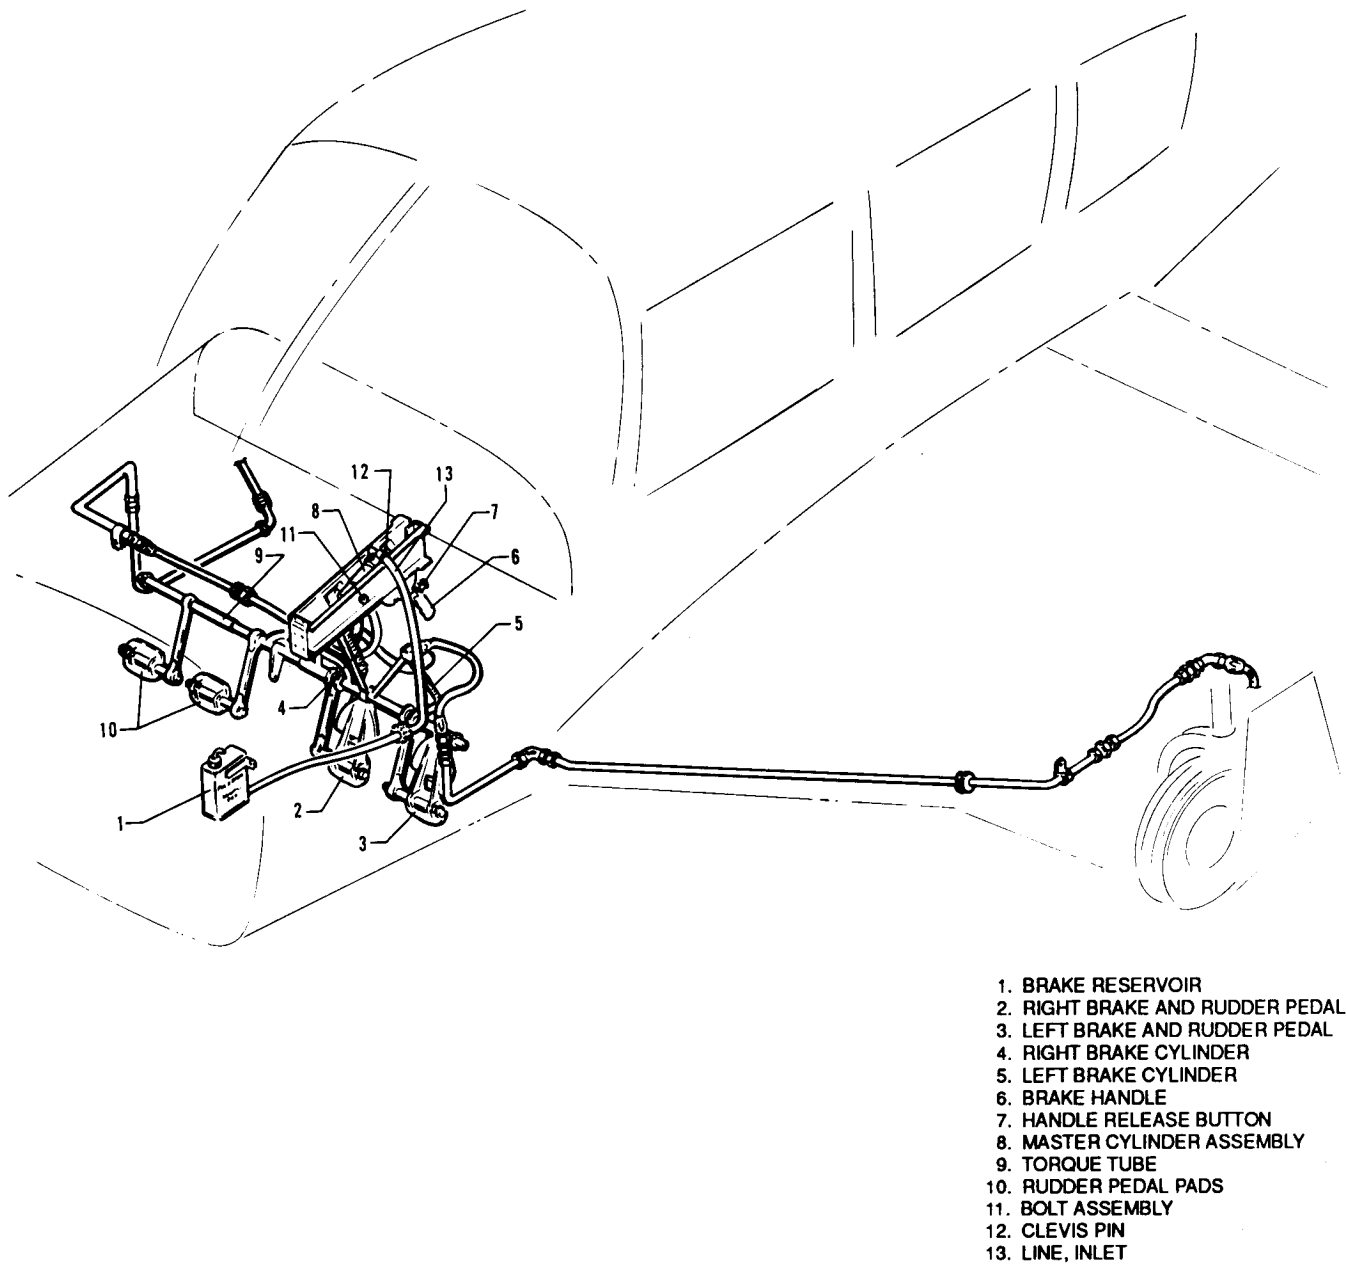

Figure 7-21. Brake System Installation
**7-58. REMOVAL OF BRAKE MASTER CYLINDER. (Refer to Figure 7-21.)**
- a. To remove the brake master cylinder (8), first disconnect the inlet supply line (13) from the fitting at the top of the cylinder and allow fluid to drain from the reservoir and line into a suitable container.
- c. Disconnect the end of the cylinder rod from the brake handle (6) by removing the cotter pin that safeties the connecting clevis pin (12). Remove the clevis pin and spacer washers.
- d. Disconnect the base of the cylinder from its mounting bracket by removing the attachment bolt assembly (11).
- e. The handle assembly (6) may be removed by removing the attachment bolt assembly that secures the handle to its mounting bracket.
- b. To assemble the piston rod assembly, install on the rod (12), in order, the roll pin (14), return spring retainer washer (15), return spring (13), packing gland (9) with O-rings, seal (10), piston (6) with O-ring, spring (4) and retainer bushing (3). Secure these pieces with the small ring (2) on the end of the rod.
- c. Insert the piston rod assembly in the cylinder (1) and secure packing gland with snap ring (11).
**7-62. INSTALLATION OF BRAKE MASTER CYLINDER. (Refer to Figure 7-21.)**
- b. Place the cylinder (8) between the mounting bracket and secure the base end with bolt, washers, nut and cotter pin. This too should have washers placed on each side of the cylinder and under the nut.
- e. Connect the inlet supply line (13) to the fitting at the top of the cylinder and secure with spring clamp.